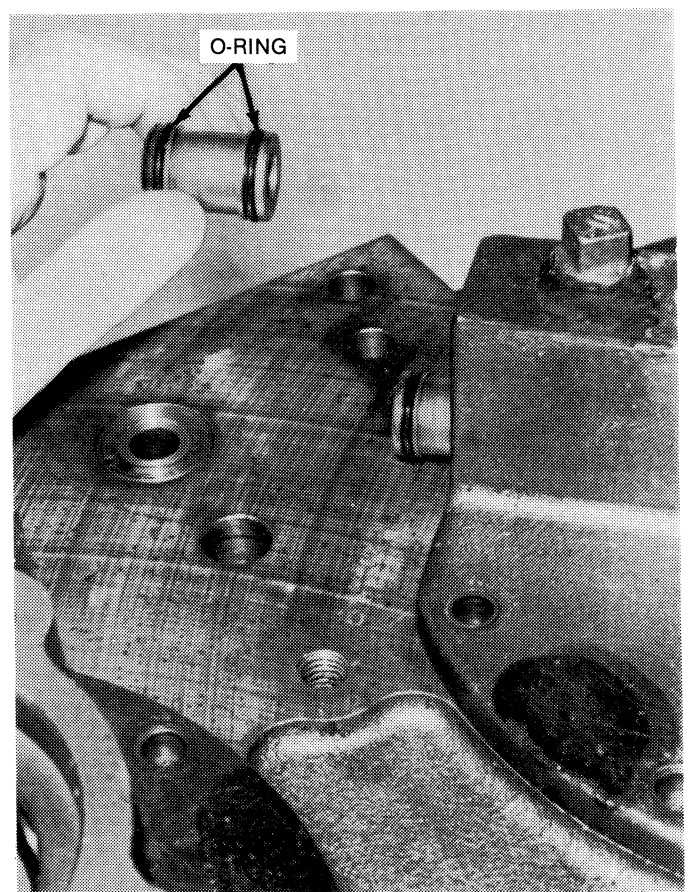

Figure 6-13. Removing or Installing Collector Oil Tube.
5. Remove the collector oil tubes. See Figure 6-13.